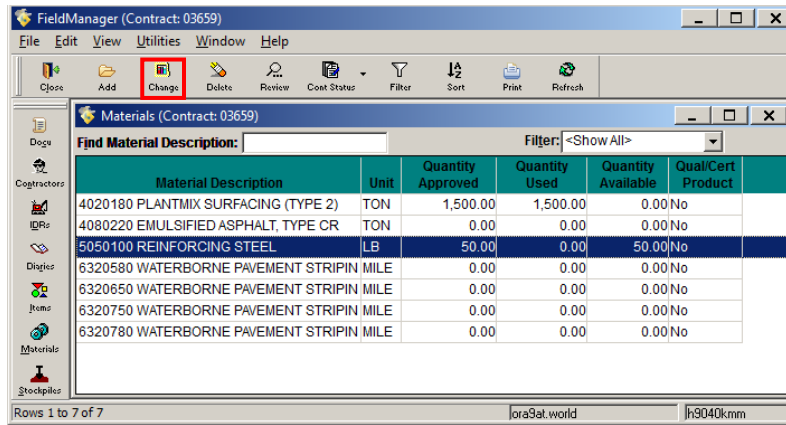

Figure 6-20. Materials List Window
2. Select the material and click **Change** on the Window Toolbar (Figure 6-20).
2. Select the material and click **Delete** on the Window Toolbar (Figure 6-20).